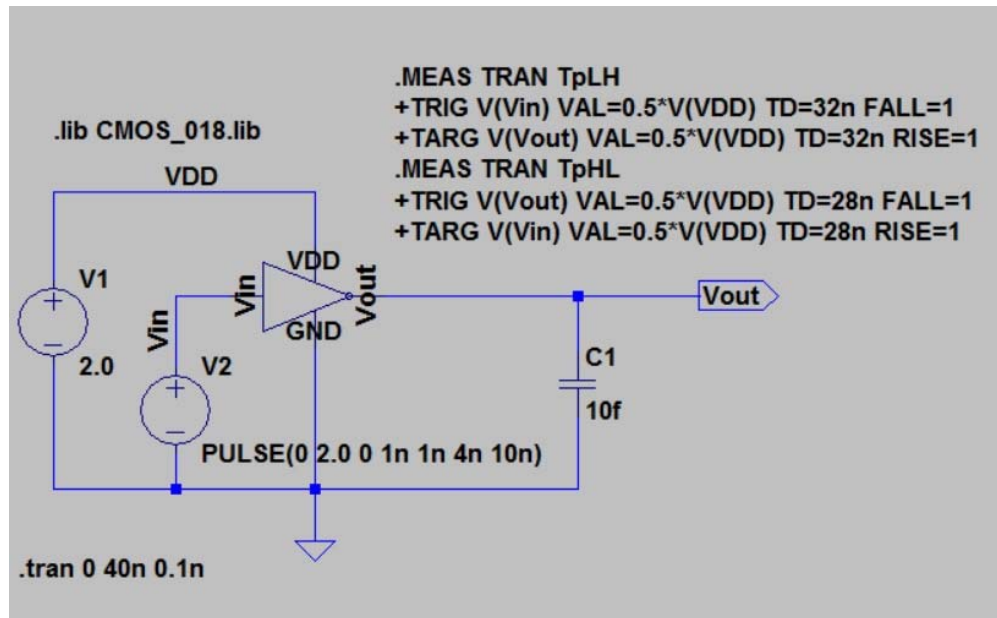

Figure 30. Test bench with the .MEAS commands for measuring delay
- C. Click **OK** on the **Edit Text on the Schematic** form, and then **click the schematic window** to insert it. The schematic looks like Figure 30, now.